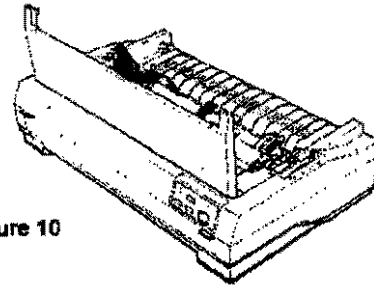

Figure 10
1. Turn off the printer and remove the printer cover by lifting it by its back edge straight up and off (Figure 10).